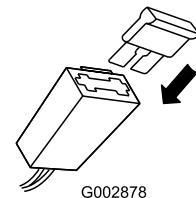

Figure 11
2. Install the fuse in the fuse holder (Figure 11).